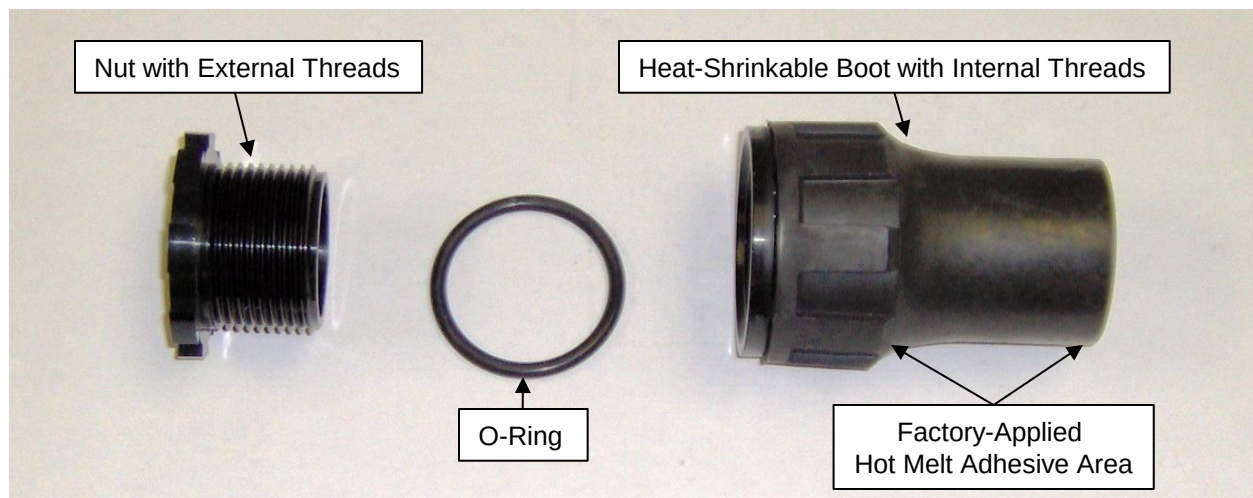
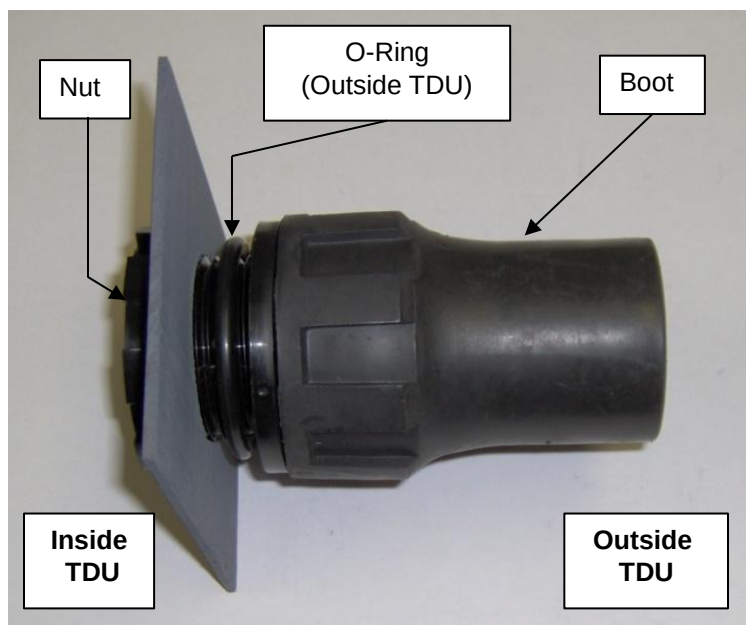

Figure 1
Figure 2
5.1 See **Fig. 1** and **Fig. 2** for Heat-Shrinkable Cable Entry Seal layout.